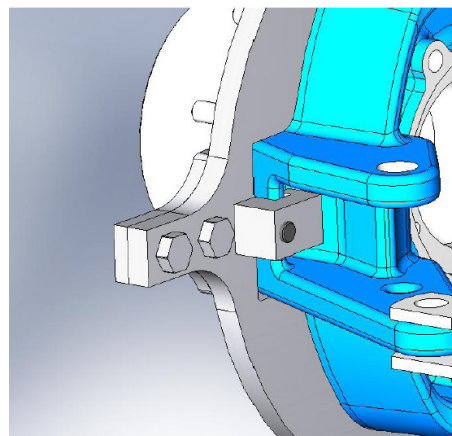

Fig. 2
- d. Mount the **L** shaped mount block on the opposite side of the Limiter Bracket using (1) 5/8-11NC x 1.5 cap screw. **Fig. 2.**
- f. This completes the assembly of the Front RH Hammer Limiter. The assembled Limiter Bracket should look like **Fig. 2.**